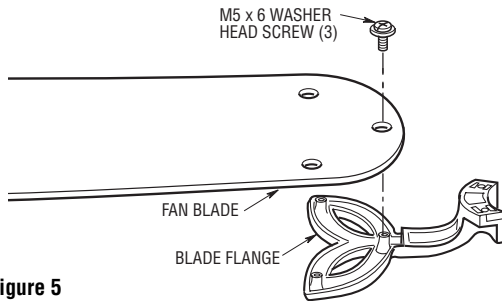

Figure 5
8. Mount blade flanges to fan blades using three M5 x 6 washer head screws (Figure 5). Repeat for the remaining four blades.